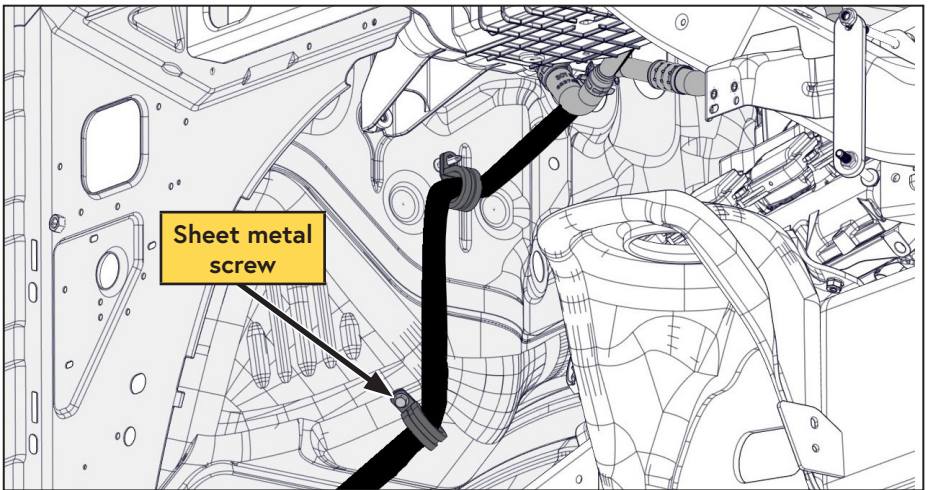

Figure 53 — Route discharge hose
- ☐ From the P-clip, route the hose bundle down the firewall to the passenger side frame rail, securing it to the firewall with the supplied (x2) 1 1/8 in P-clips (Figure 53).